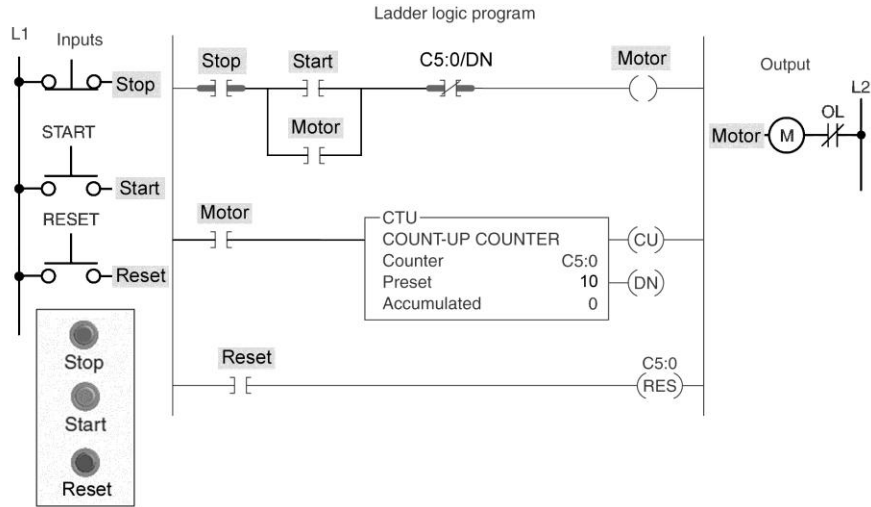

Figure 8-8 Motor counter program for assignment 2.
2) The counter program of Figure 8-8 is used to stop a motor from running after 10 operations. The operation of the program is described in the text. Prepare an I/O connection diagram and ladder logic program for this application. Use addresses that apply to your PLC. Enter the program into the PLC, and prove its operation.